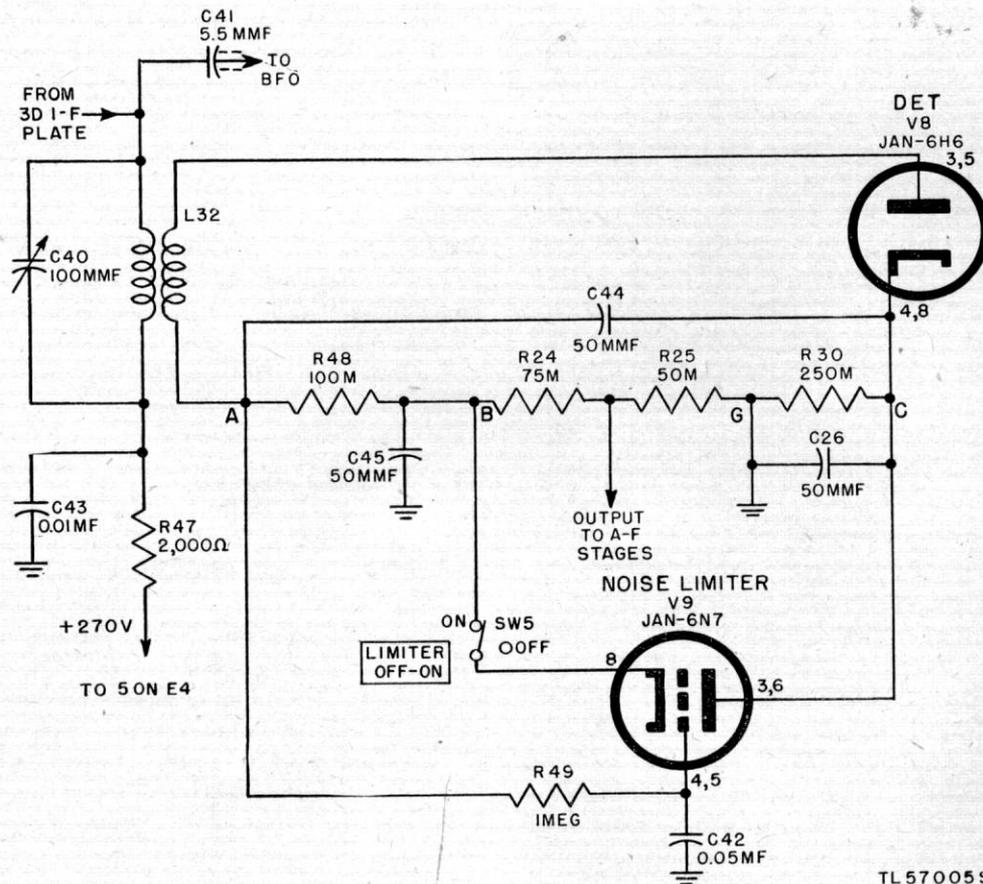

Figure 30. Radio Receiver BC-779-B, functional diagram of detector and noise limiter stages.
through 10,000-ohm resistor R22 and L31. Capacitor C20B (0.05 mf) bypasses the low-potential end of L31 to ground, but prevents the bias voltage from being shorted to ground. Screen voltage is applied through 50,000-ohm series dropping resistor R23; the screen is bypassed by 0.05-mf capacitor C20C. Plate voltage is applied through 2,000-ohm decoupling resistor R47 (fig. 30) and the primary winding of L32. The primary of L32 is tuned by 100-mmf capacitor C40. The 0.01-mf capacitor C43 bypasses h-f components to ground.
### 63. Detector (fig. 30)
### 64. Noise Limiter (fig. 30)
a. LIMITER CIRCUIT. The triode sections of Tube JAN-6N7 (V9) are connected in parallel to form a single triode (fig. 30) which is used as a shunt-type limiter. The heater voltage is reduced to approximately 3 volts by 4-ohm series resistor R31 (fig. 56). The control grids (pins 4 and 5) are connected to 0.05-mf capacitor C42, which is grounded at one end, and through 1-megohm (meg) resistor R49 to the most negative point (A) on the diode resistance. The cathode (pin 8) is connected through LIMITER OFF-ON switch SW5 to a point of higher potential (B) with respect to point (A), and the plates (pins 3 and 6) are connected to the point of highest potential (C)
b. The r-f voltage across R34, approximately 465 kc, is applied through capacitor C41 to the input circuit C40-L32 of detector stage V8 (fig. 30). This r-f voltage mixes in the detector with the 465-kc i-f signal from the 3d i-f tube, V7, resulting in a beat or difference frequency which is applied to the a-f stages of the receiver. By adjusting the BEAT OSCILLATOR control, C47, the pitch of this difference frequency can be controlled at will. Furthermore, the BEAT OSCILLATOR control may be set to obtain the desired difference frequency tone above or below the intermediate frequency, depending on the side which gives the more satisfactory reception. In addition to being necessary for proper reception of c-w code signals, the bfo is useful for locating weak signals of any kind. As indicated in paragraph 65e, capacitor C17 is connected in parallel with the a-v-c time constant determining capacitors C56 and C18 during a-v-c reception to increase the time constant when the bfo is being used for c-w code signals. When the SIGNAL MOD-CW switch, SW3, is in the MOD position, the bfo does not operate since the plate and screen supply is cut off. In this position the additional timing capacitor, C17, is disconnected from the a-v-c line, since it is required only for a-v-c c-w code reception.